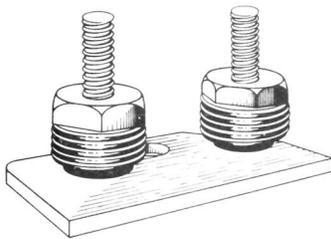
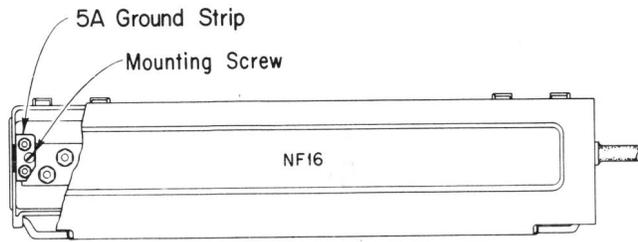

Fig. 73—5A Ground Strip
Fig. 74—5A Ground Strip Installed in NF16 Cable Terminal
7.06 The 5A ground strip (Fig. 73) consists of a brass plate with two binding posts. It is intended for use in 10- and 16-pair NC, NE, NF, and NH cable terminals. A hole is provided in the plate of the 5A ground strip for mounting it in a cable terminal using the screw which holds the terminal block in the terminal housing (Fig. 74). The 5A ground strip has a capacity of ten wires.